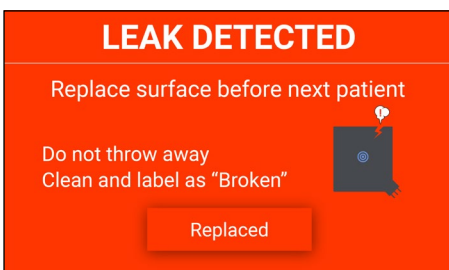

Figure 33. Recurring leak alert screen: procedure table support surface
2. If the problem persists, a component failure is indicated. A subsequent alert will occur after the patient is discharged from the Guardian System. (Fig. 33)